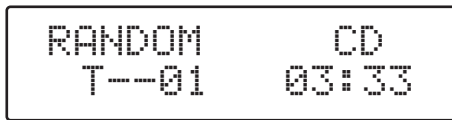

Fig 12.
1. During playback press the RANDOM button on the remote control to begin random playback. (Fig 12)